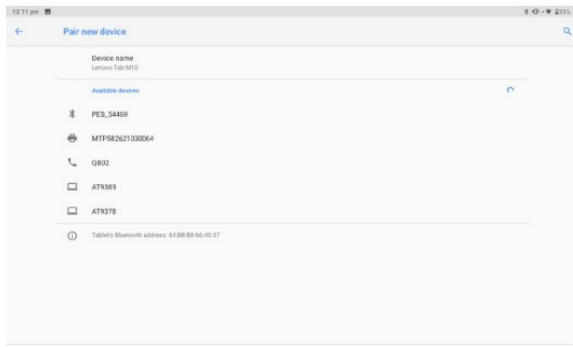

Figure 44
4. Wait for available devices to be found (be sure the device you are trying to pair with is on and ready to pair) (Figure 44)